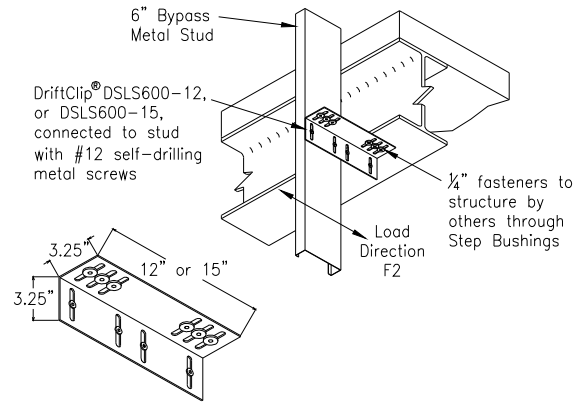

Figure 2 – DriftClip® DLSL600-12 and DLSL600-15
3.1.3 DriftClip® DSLS: DriftClip® DSLS600-12 and DSLS600-15 are L-shaped angles that connect 6-inch-deep (152 mm) cold-formed steel framing of exterior curtain walls to a building's structural steel spandrel beam or structural concrete floor slab, while allowing a maximum of 2 inches (51 mm) of vertical and horizontal movement between curtain wall elements and the primary structure. The minimum base-metal thickness of the clips is 0.0966 inch (2.5 mm). The -12 and -15 following the model number DSLS600 represent the total length, in inches, of the connector. The two legs of the DriftClip® DSLS600-12 and -15 connectors are equal in length, and each has two or three slots perpendicular to the heel of the angle, each $\frac{3}{8}$ inch (9.5 mm) wide by $2\frac{3}{8}$ inches (60 mm) long. The leg which is fastened to the curtain wall stud has bushings designed for No. 12-14 by 1-inch self-drilling/self-tapping steel screws installed in the centers of the slots. The other leg, which is fastened to the structure, has bushings designed for $\frac{1}{4}$ -inch-diameter (6.4 mm) fasteners installed in the centers of the slot. Refer to Figure 2 for overall dimensions of each DriftClip® DSLS connector and a typical installation detail.